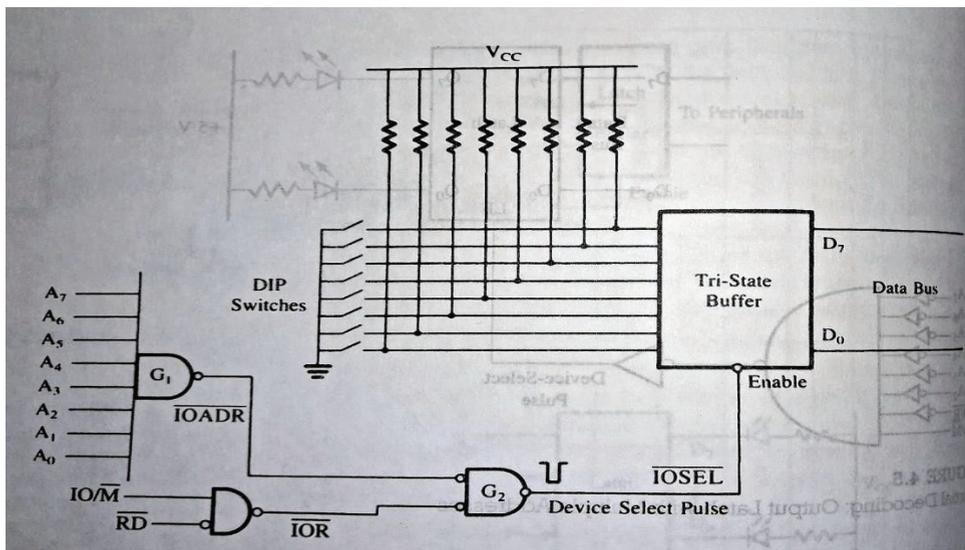

Figure 4.6 :- Decode Logic for a Dip – switch Input Port
Figure 4.6 shows an example of interfacing an 8-key input port. The basic concepts behind this circuit are similar to the interfacing concepts explained earlier.
3. In figure 4.6, data flow from the keys to the accumulator on the other hand, in figure, data flow from the accumulator to the LEDs.